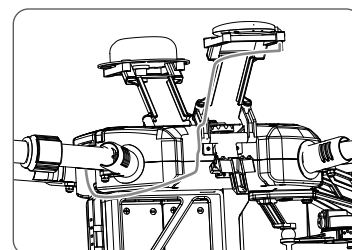

Fig.2
8. An external GPS module is required when the upward gimbal is used. Ensure the GPS cable is connected to the rear port and the cable is tied properly. (Fig. 2)